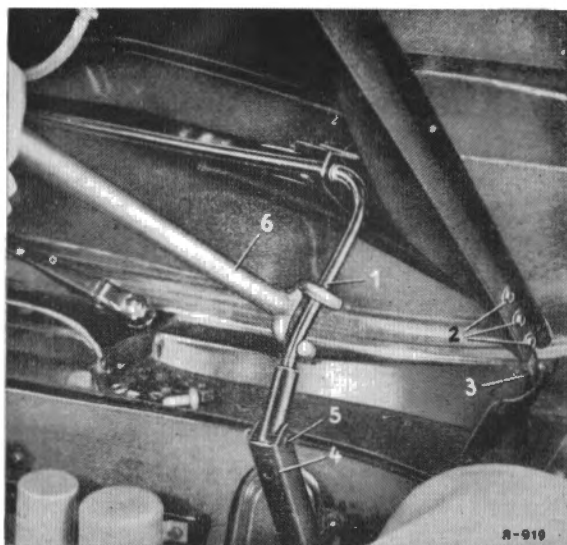

Fig. 00-1/1
In the case of the 1st version hood attachment release the pressure on the torsion bar (1) on the hood with Removal Tool 111 589 02 61 (6) and remove the collar bolt (5) (Fig. 00-1/1).